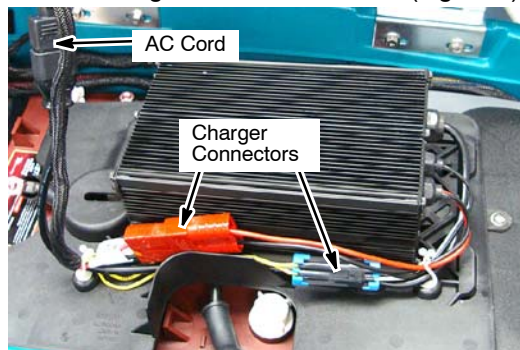

Fig. 3
3. Disconnect AC cord and charger connectors from machine charger harness as shown (Figure 3).